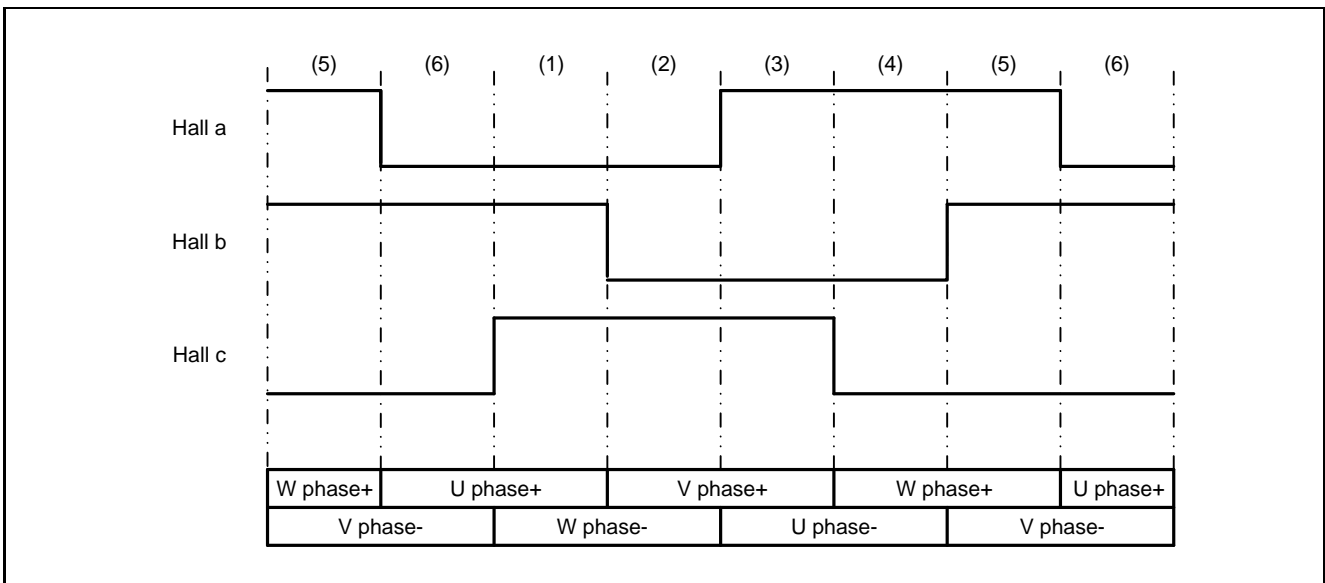
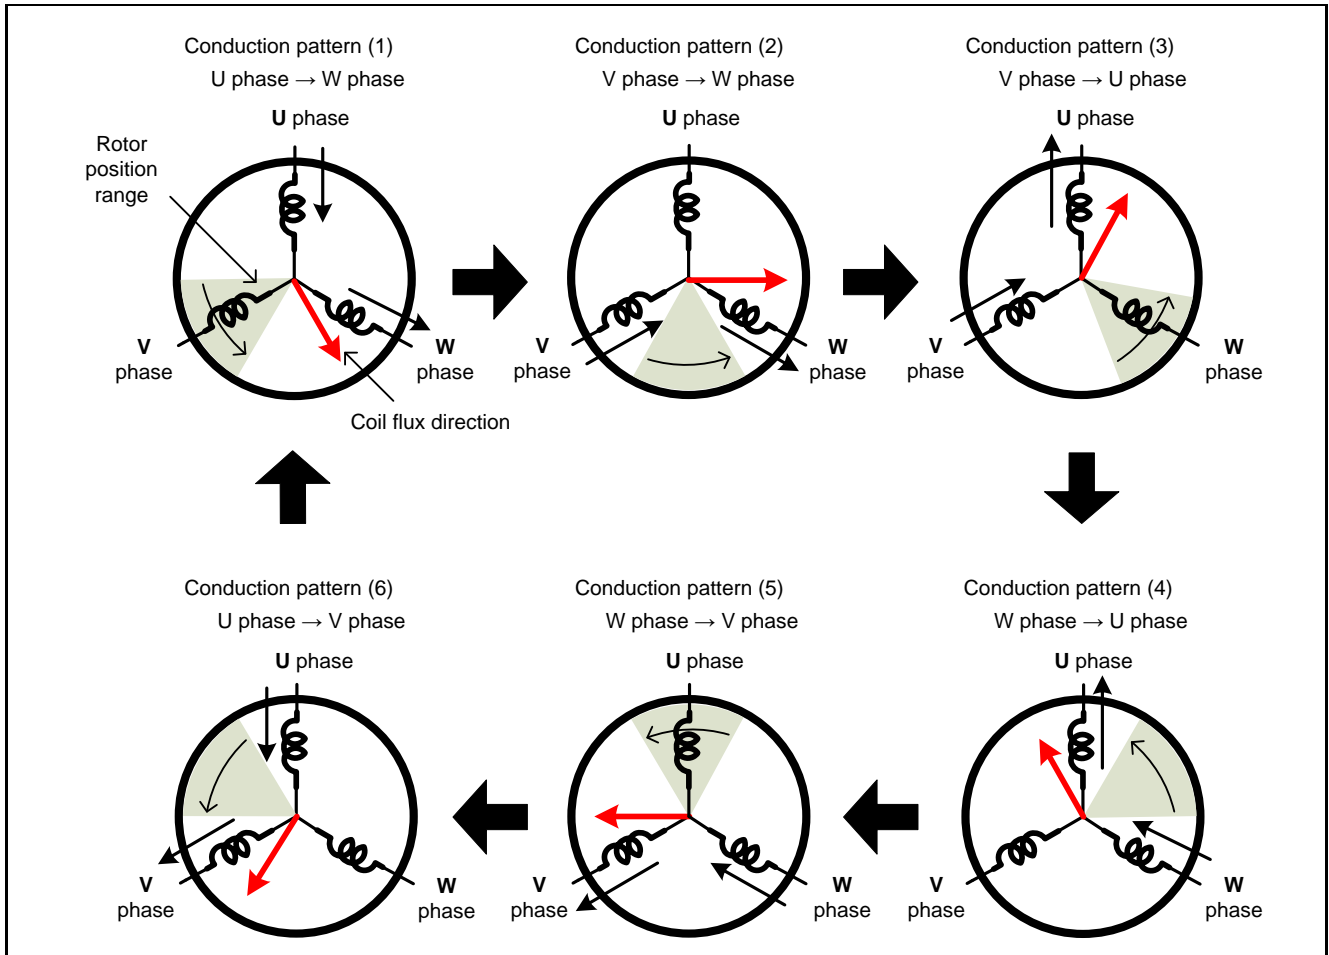

Figure 4.2 Relation between Hall Sensor Signals and Conduction Patterns
Figure 4.3 Six Conduction Patterns and Rotor Position Ranges
If the conduction patterns of each phase are changed in the switching timing of these hall sensor signals, as shown in Figure 4.2, rotating flux are generated as shown in Figure 4.3. Then the rotor has the torque and rotates.
The relation between above-mentioned six conduction patterns and rotor position ranges is shown in Figure 4.3.
1. The relation between hall sensor signals and conduction patterns shown in Figure 4.3 is set to be suitable for this system. A different motor specification requires setting different conduction patterns appropriate to the system.